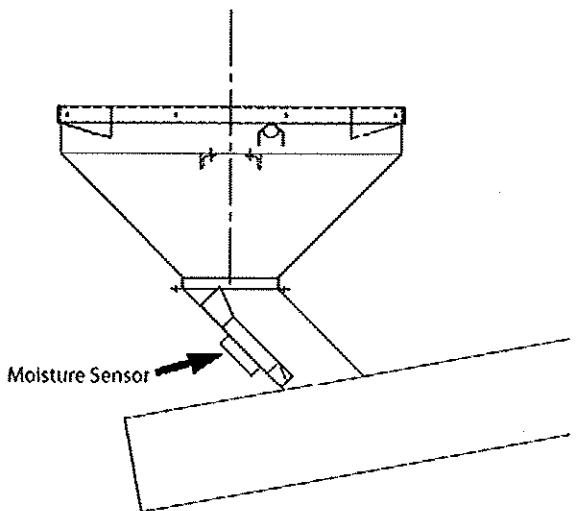

Figure 39
- If the Tower Dryer has a center dump, the sensor needs to be installed with flow-through sensor mount during Tower Installation. **See Figure 39.** The sensor mount is to funnel grain through and past sensor at a slower grain rate to measure moisture of grain properly. The flow-through device needs to be mounted on a flat surface with ample grain flowing into it. The sensor has 40' of wire to remotely locate a good position to mount sensor in grain path.